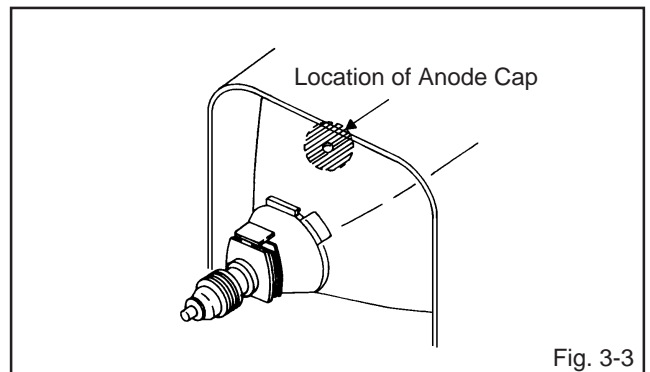

Fig. 3-3
1. Clean the spot where the cap was located with a small amount of alcohol. **(Refer to Fig. 3-3.)**